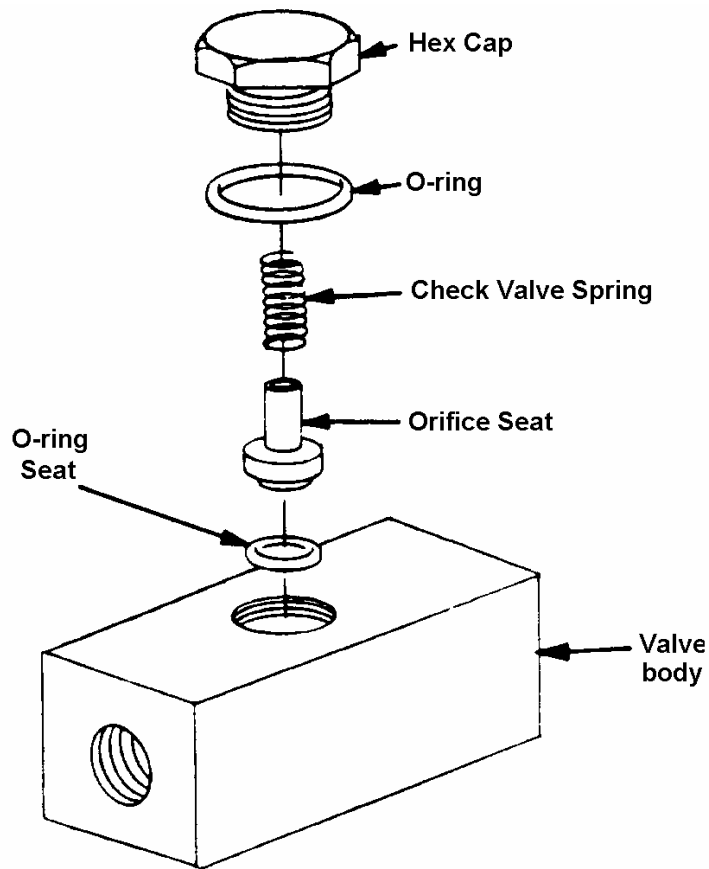

Figure 4-4. Flow control valve.
a. **Disassemble and Repair the Flow Control Valve.** You can disassemble, clean, and repair the flow control valve as required. Refer to figure 4-4 and use the following procedures.
- (1) Remove the hex cap, spring, and orifice seat from the valve body.
- (2) Inspect the hex cap O-ring and orifice seat O-ring for damage.
- (3) Inspect all parts for wear, pock marks, dirt or other signs of damage. Clean or replace as required.
- (4) Insert the orifice seat (with the O-ring in place), spring, and hex cap (with the O-ring in place) into the valve body and tighten securely.